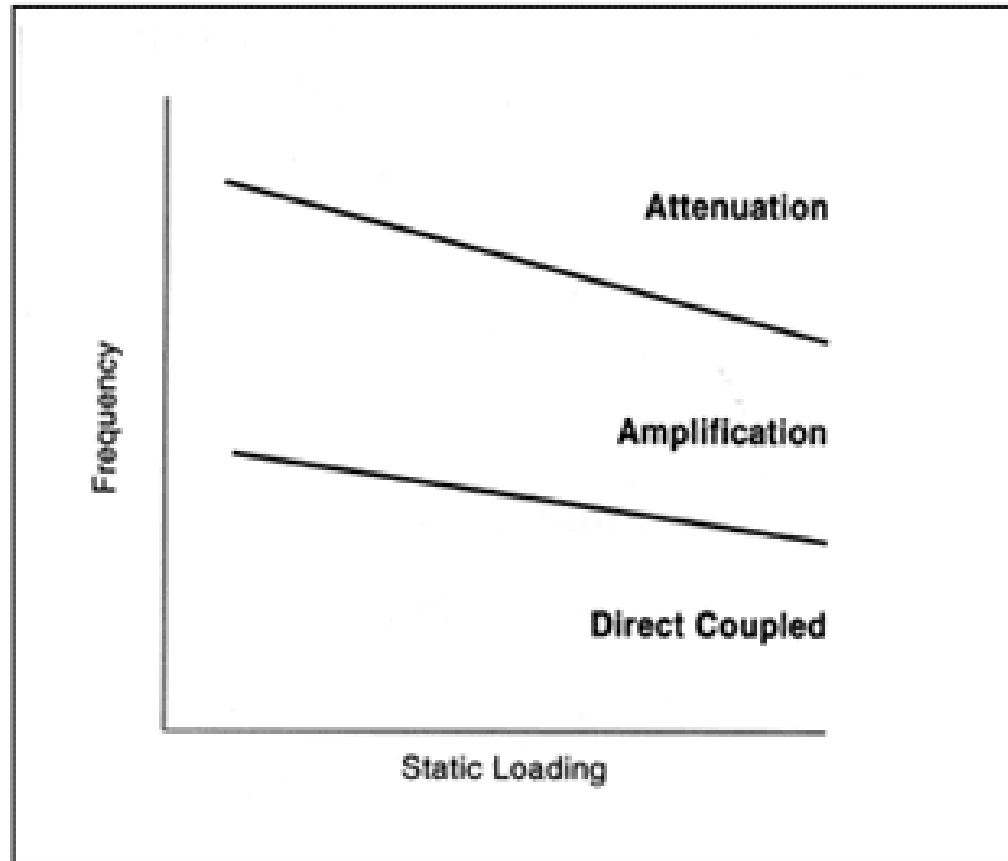

Figure 15.4 Vibrational response of a cushioning material
- Material response is often given in diagrams similar to Figure 15.4, which represent performance for a given thickness of material. Note that for any frequency, one can estimate whether the package will perform in direct coupling, amplification, or attenuation mode as a function of the static loading applied to the cushion.